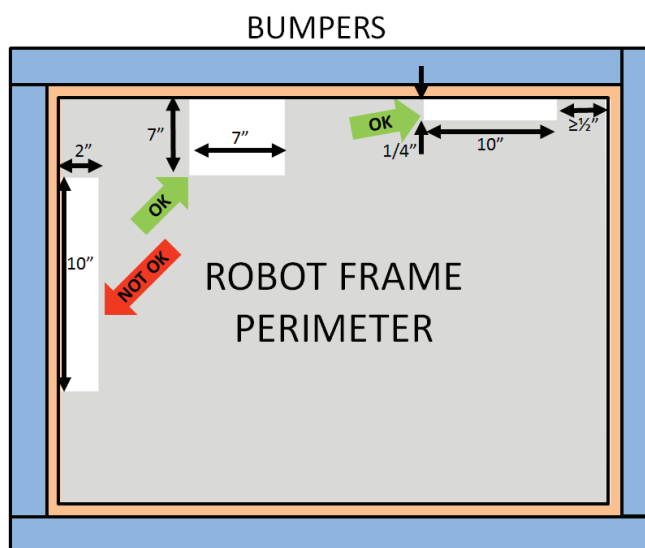

Figure 10-8 BUMPER support examples
**R33.** BUMPERS must be supported by the structure/frame of the ROBOT (see Figure 10-8). To be considered supported, a minimum of 1/2 in. (~13 mm) at each end of each BUMPER wood segment must be backed by the FRAME PERIMETER ( $\leq 1/4$  in. gap). “Ends” exclude hard BUMPER parts which extend past the FRAME PERIMETER permitted by R31-B. Additionally, any gap between the backing material and the frame: